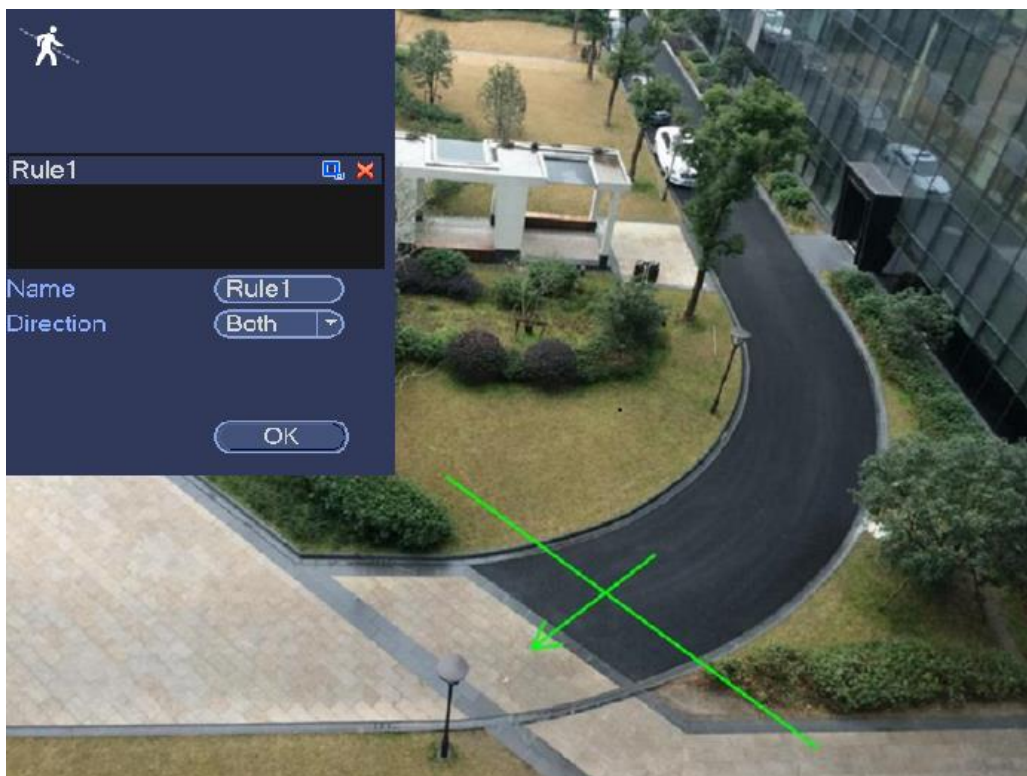

Figure 4-145
1. Click Draw button to draw the tripwire. See Figure 4-145.